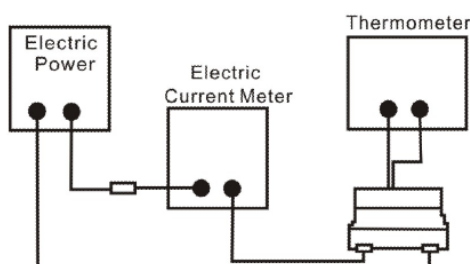

Fig.5.3.4-1
4. Definition of Temperature rise current: DC current that causes the temperature rise ($\Delta T = 40^\circ\text{C}$) from 20°C ambient (see Fig. 5.3.4-2).